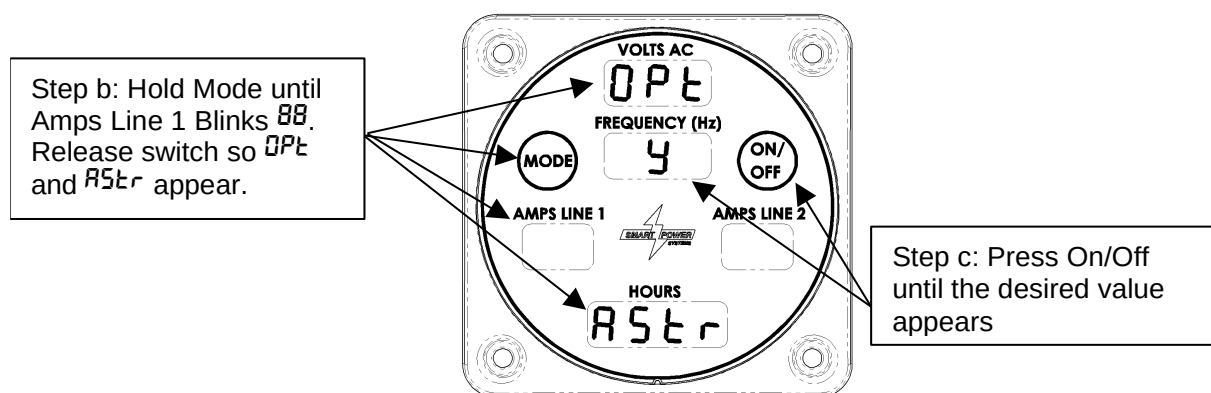

Figure 12 – Enabling Auto-Start
- b. Press and hold the Mode switch until the Amps Line 1 field begins blinking **88** (more than 10 seconds). Release the switch so **OFF** and **RESET** appear. Reference Figure 12.